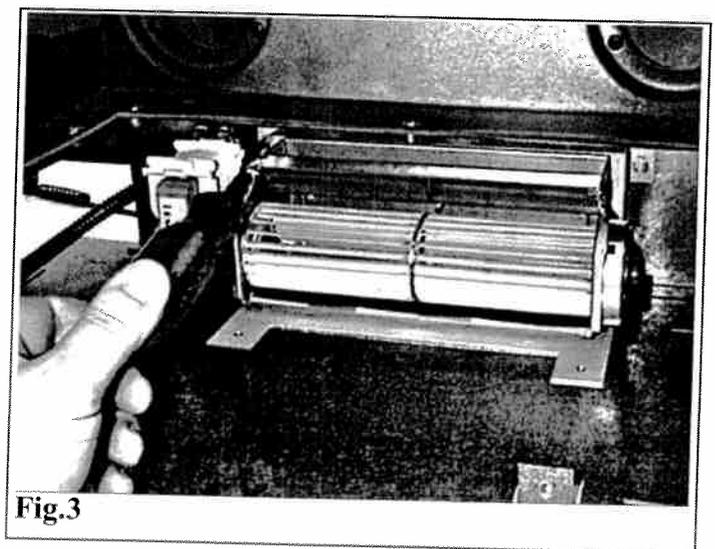

Fig.3
- Fit the blower unit by placing it into the rear of the liner box and securing to the rear wall using the two screws provided(fig.3)